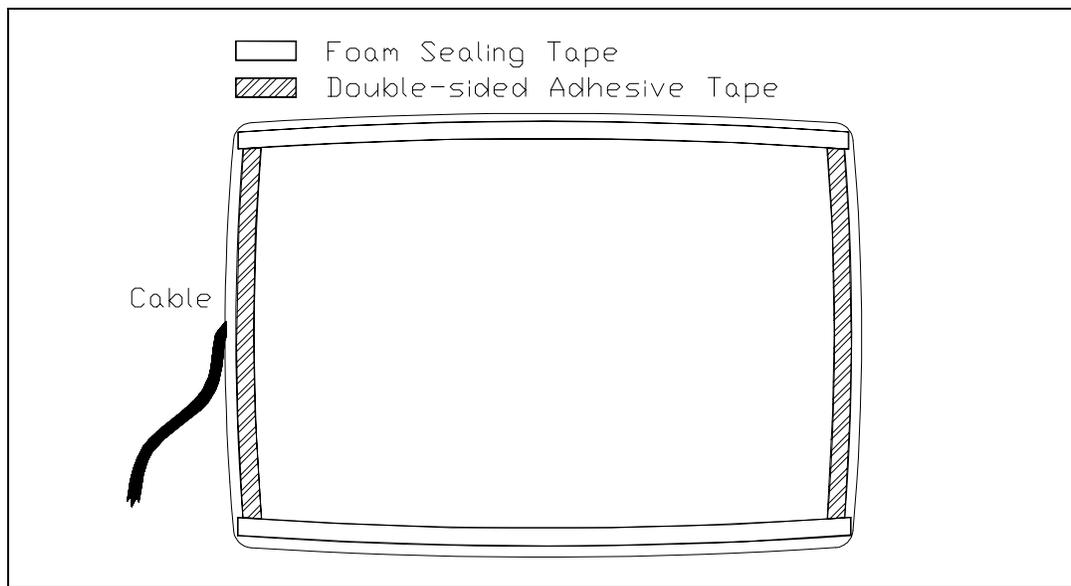

Figure 4-2. Rear View of IntelliTouch Touchscreen with Mounting Materials
- Use two layers of the double-sided adhesive tape to achieve a total thickness of 1/16-inch (2 mm). While specific touchscreen and CRT combinations may allow the use of thinner materials, 1/16-inch (2 mm) is generally necessary to allow for variations in ROC between the two glass surfaces. Review the fit between the touchscreen and the CRT before applying the tape. If one pair of opposite edges has a closer fit than the other, put the adhesive tape on the edges of the touchscreen with the better fit. See Figure 4-2 for typical placement. If there is a good fit on all four edges, you may want to use double-sided adhesive tape on all four edges. When doing this, move the adhesive tape in slightly on one pair of edges and add foam sealing tape outside these two edges. The thicker foam tape will keep the adhesive tape away from the CRT until you are ready to adhere the touchscreen to the display.
- Cut and place the foam sealing tape on the back of the touchscreen to form a dust seal as shown in Figure 4-2, page 35. This seal is particularly important because the CRT is a good electrostatic precipitator and will attract dust. The adhesive tape and foam sealing tape should form a complete seal around the touchscreen. Do not leave any gaps. The sealing tape should not be visible when the display is reassembled.